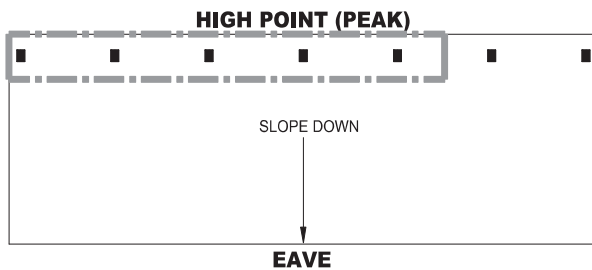

FIGURE 21A
- Calculate the most hydraulically demanding 5 contiguous DS sprinklers. See FIGURE 21A.